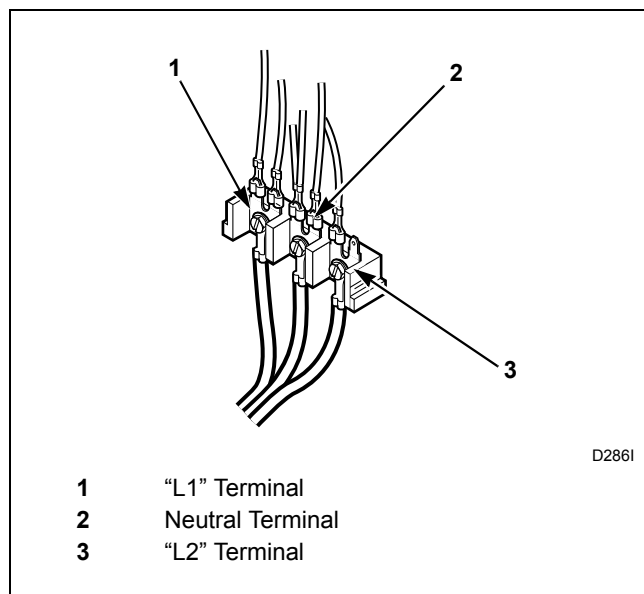

Figure 9
4. Use the three screws from the accessories bag to attach the power cord wires to the terminal block. Refer to *Figure 9*.